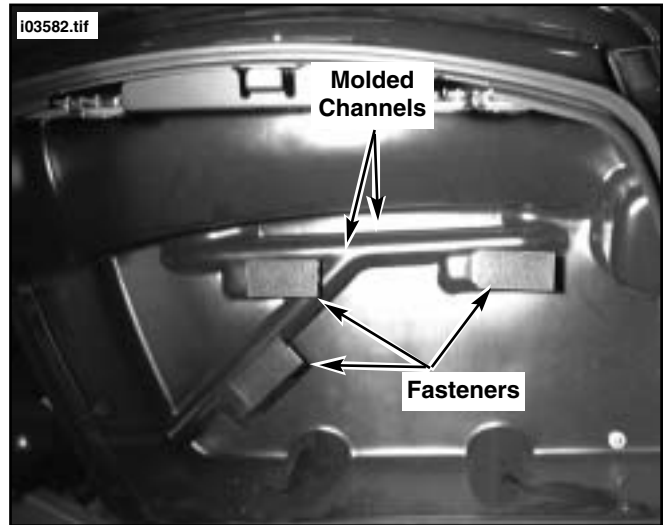

Figure 13. Install Saddlebags
- See Figure 13. Align the molded channels on rear of saddlebag with support brackets.
35. Refer to Figure 13. Pull each of the fastener handles open.